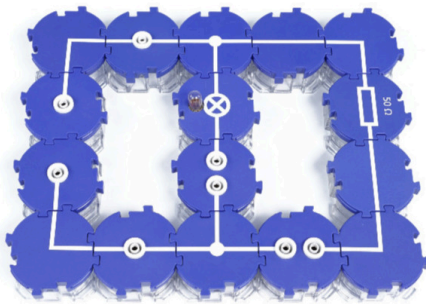

Fig. 1 Circuit of the experiment
- Build the circuit diagram as shown in Figure 1.